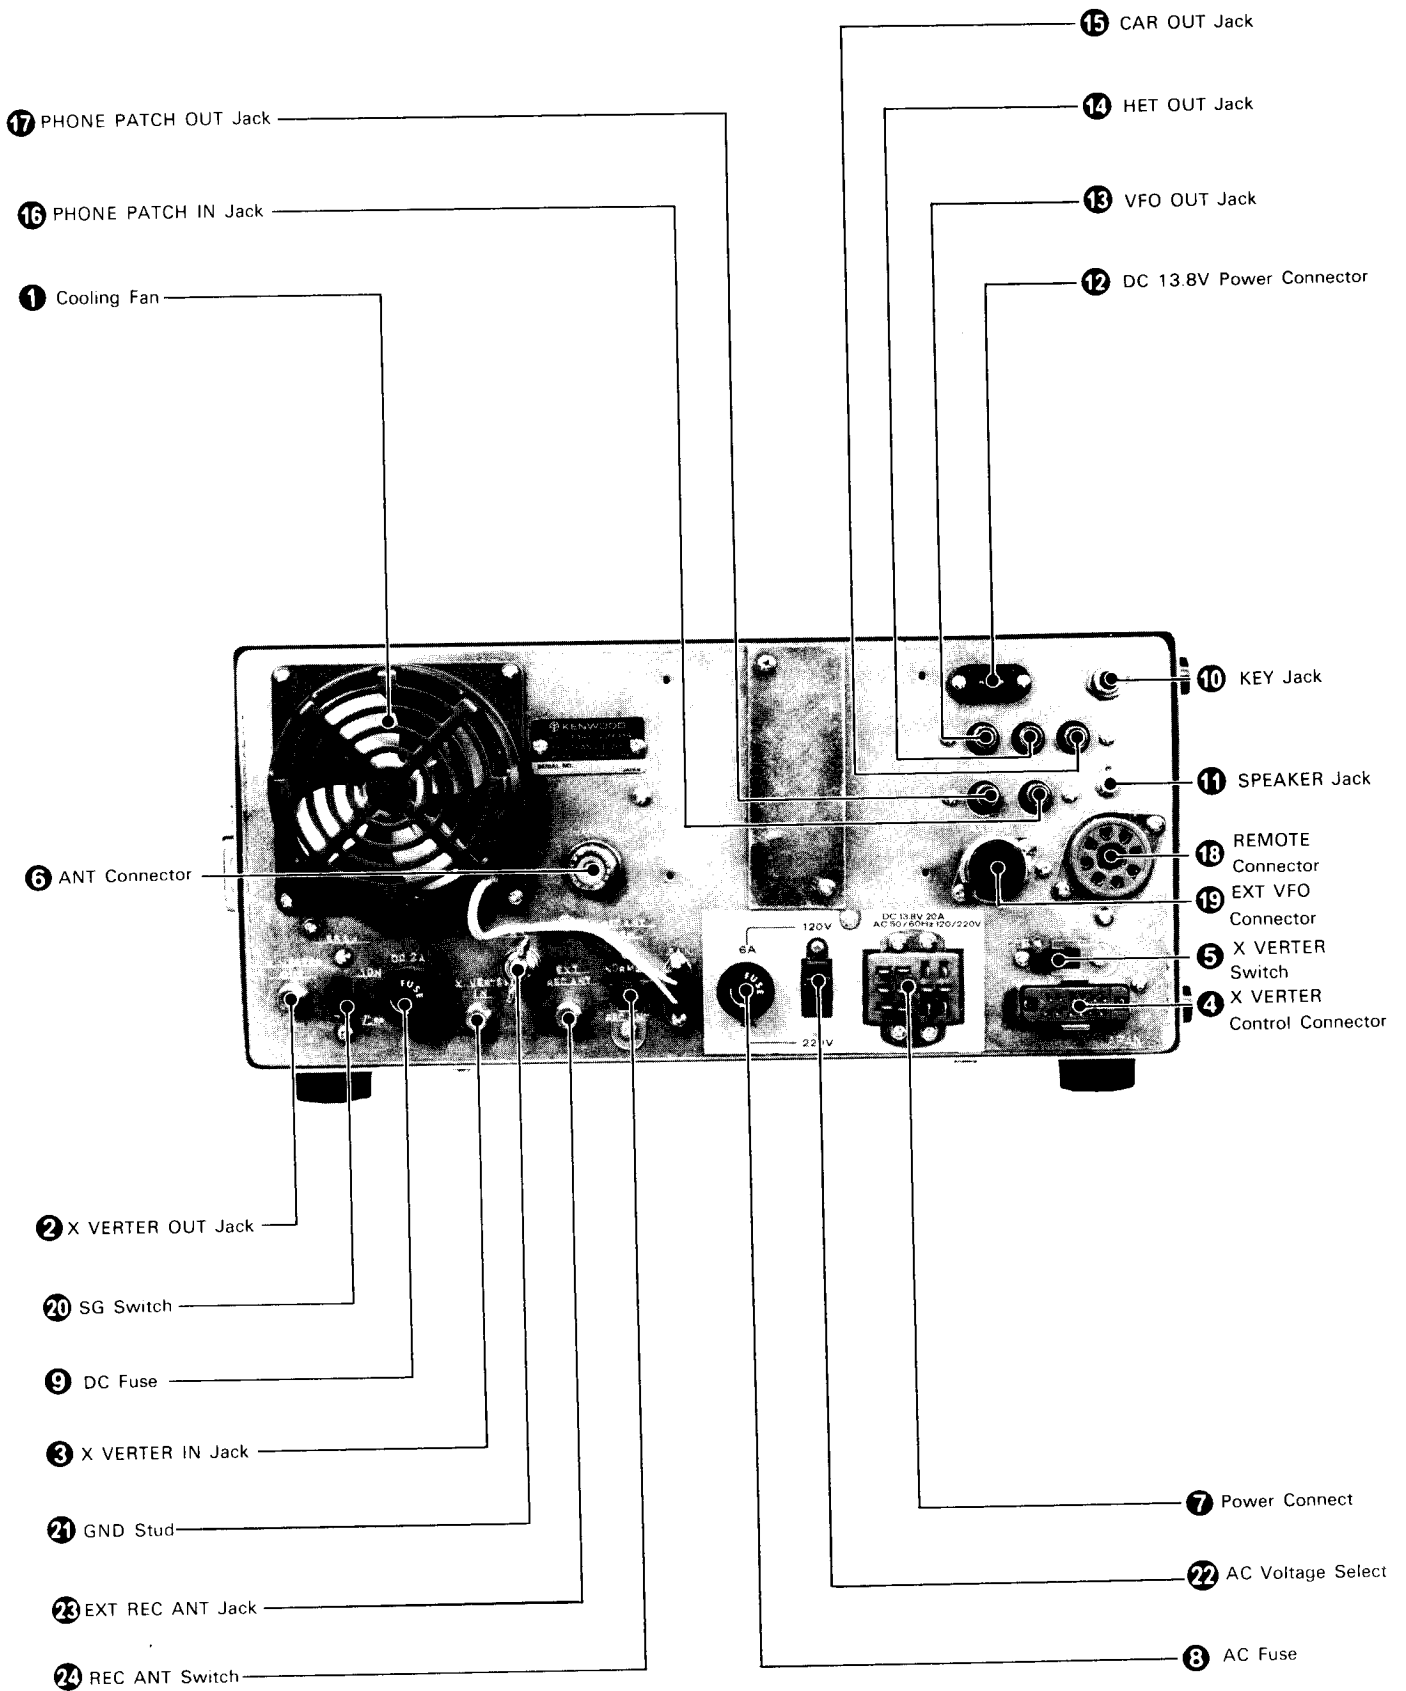

Fig. 7 Rear Panel Controls
3.3 REAR PANEL CONTROLS (See Figure 7)
■ COOLING FAN (1 on Figure 7)
■ TRANSVERTER OUT JACK (2 on Figure 7)
■ TRANSVERTER IN JACK (3 on Figure 7)
■ TRANSVERTER CONNECTOR (4 on Figure 7)
■ XVERTER SWITCH (5 on Figure 7)
■ ANTENNA CONNECTOR (6 on Figure 7)
■ POWER SUPPLY CONNECTOR (7 on Figure 7)
■ **AC FUSE** (⑧ on Figure 7)
■ **DC FUSE** (⑨ on Figure 7)
■ **KEY JACK** (⑩ on Figure 7)
■ **SPEAKER JACK** (⑪ on Figure 7)
■ **13.8V DC CONNECTOR** (⑫ on Figure 7)
■ **VFO OUT JACK** (⑬ on Figure 7)
HET OUT JACK (⑭ on Figure 7)
CAR OUT JACK (⑮ on Figure 7)
■ **PHONE PATCH IN JACK** (⑯ on Figure 7)
■ **PHONE PATCH OUT JACK** (⑰ on Figure 7)
■ **REMOTE CONNECTOR** (⑱ on Figure 7)
■ **EXTERNAL VFO CONNECTOR (19)** on Figure 7)
■ **SG SWITCH (20)** on Figure 7)
■ **GND (Ground) LUG (21)** on Figure 7)
■ **AC VOLTAGE SELECT SWITCH (22)** on Figure 7)
■ **EXTERNAL RECEIVER ANTENNA JACK (23)** on Figure 7)
■ **RECEIVER ANTENNA SWITCH (24)** on Figure 7)